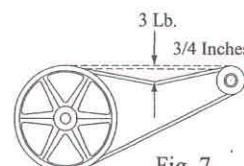

Fig. 7
- Check belt tension.** A 3 lb. force should deflect the belt 3/4 inches (see Fig. 7). Readjust belt if needed.